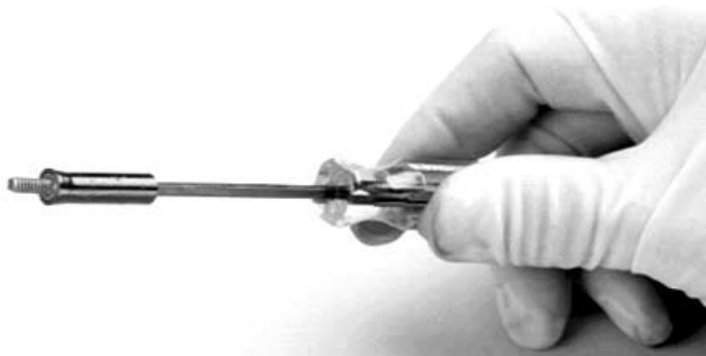

Figure 6-2. Socket-head screw correctly retained by the sleeve on the end of the Allen driver
Step 2: Now you are ready to remove the screws that secure the crucible to the crucible mounting flange. This procedure involves using the special Allen tool provided with the source, which consists of a standard 7/64" Allen driver with a machined sleeve fitted over the shaft (see Figure 6-2). If you are not experienced with this tool, see the detailed instructions in steps 3 and 4 under the heading "Removing the Crucible" in section 3.5. If you are proficient in the use of this tool, proceed directly to step 5.